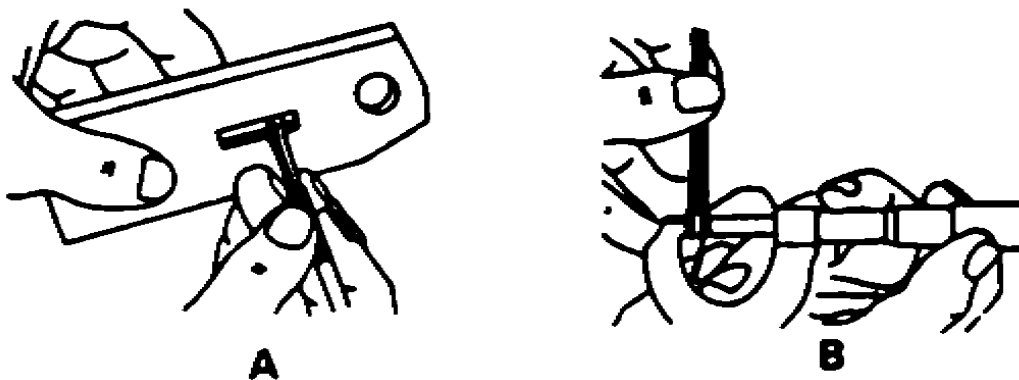

FIGURE 60. USING SMALL HOLE GAGE (PARTS A AND B)
- e. To use the small hole gage, fit the ball-shaped point into the hole or slot, Figure 60, Part A. Expand the ball-shaped end by turning the screw at the end of the handle.
- f. Use a micrometer to gage the measurement, Figure 60, Part B.